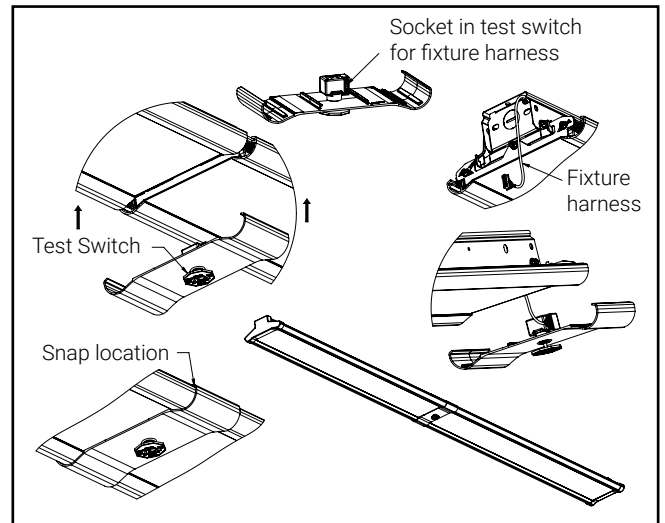

Figure 17
5. Connect the harness coming from the end of the fixture to the test switch. Ensure all of the wire harnesses are pushed upward and out of the way. Then push the trim piece upward so the ends snap over the side rails. There are bumps on the inside of the trim piece to center it. After installed the trim piece will sit flush with the rails and waveguide. Test according to the battery pack instructions. (Figure 17)